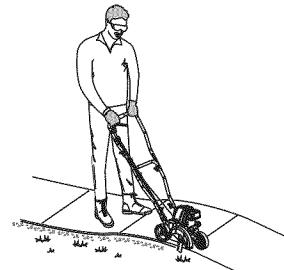
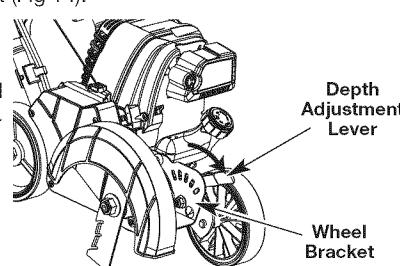

Fig. 13
Fig. 14
Before operating the unit, stand in the operating position (Fig. 13). Check for the following:
- The edger wheel adjusted for proper cut depth as shown in Figure 14 and edger positioned as shown in Figure 13.
- Gently pull the depth adjustment lever away from the wheel bracket (Fig 14).
- To raise the cutting blade, move the lever toward the front of the wheel bracket (Fig. 14). Lowering the wheel decreases the cutting depth.